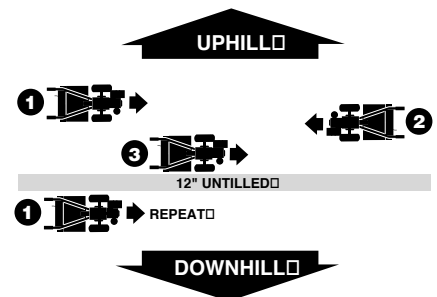

Figure 4-10
- To create a terrace, start at the top of the slope and work down. Go back and forth across the first row as shown in Figure 4-10.